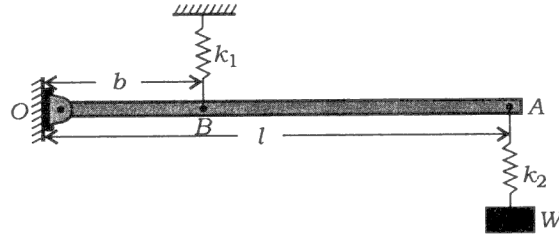

Fig. 1(a)
1. (a) A block (weight = W) is suspended by means of a spring, whose spring constant = k_2 , from the end of a rigid weightless beam, which is of length l and hinged to a wall by a frictionless connection at its left. It is held in a horizontal position by a spring, whose spring constant = k_1 , attached to it at a distance b from the hinge end to the ceiling as shown in Fig. 1(a) below. Determine the deflection of point A :